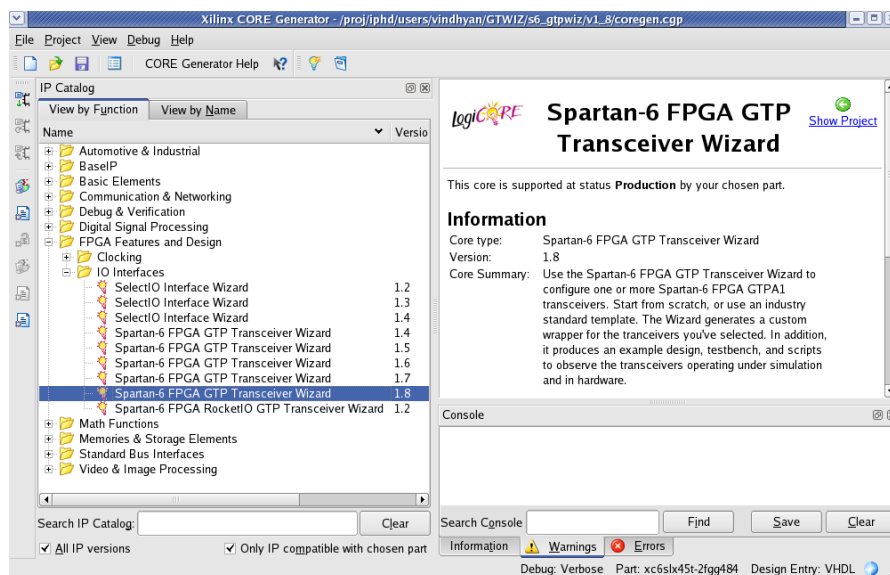

Figure 3-4: Locating the GTP Transceiver Wizard
1. Locate the Spartan-6 FPGA GTP Transceiver Wizard 1.9 in the taxonomy tree under: /FPGA Features & Design/IO Interfaces. (See Figure 3-4)